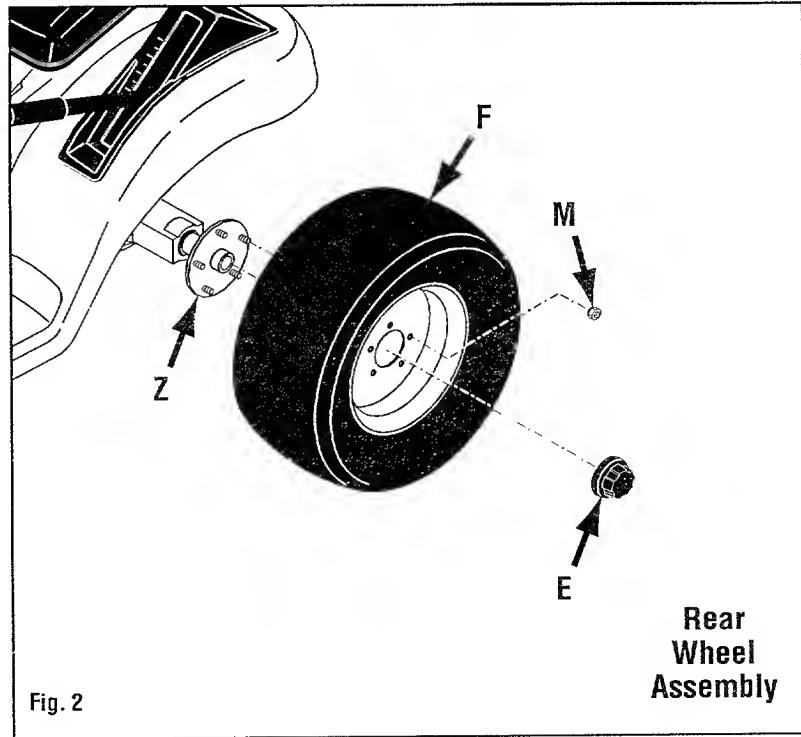

Fig. 2
- Hoist or jack rear of unit at rear hitch high enough to allow rear wheels to slide onto wheel hubs (Z, Fig. 2).